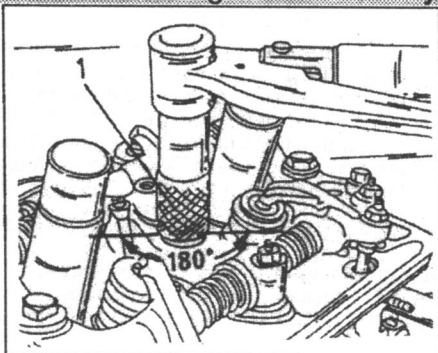

Fig. 1.45. — Angle-tightening the cylinder head bolts when the angle is 180°. The socket (1) must be marked as shown.
- Place the socket with a tommy bar over the bolt No. 1 and mark the bolt head as shown in Fig. 1.45. Tighten the bolt by half a turn. This is shown in the illustration by the 180°. Arrange the tommy bar parallel with the long side